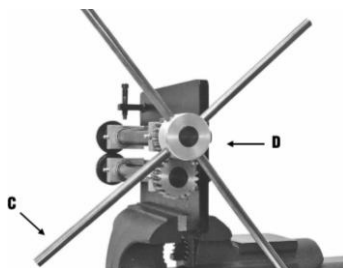

Fig. 1
1. Thread the 4 handle (C) spokes into the machined hub (D), which is located on the upper shaft end adjacent to the upper spur gear (Fig. 1).